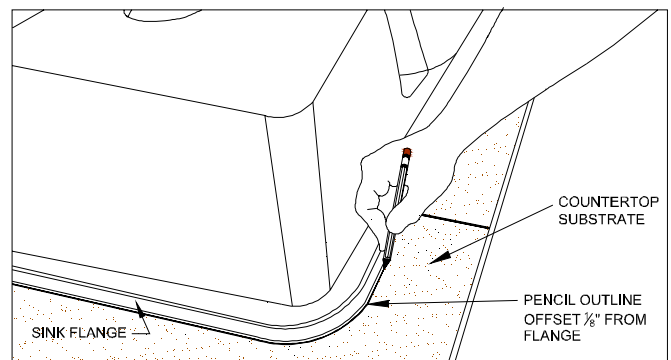

Figure 14B
- With a pencil, trace the sink perimeter leaving an $\frac{1}{8}$ " gap between the pencil line and the rim of the sink. (FIG. 14B)